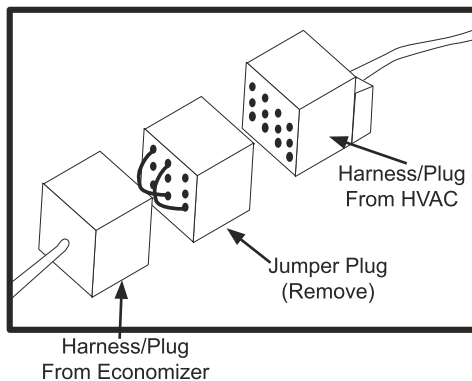

Fig. 3 — Unit Wiring Harness Plug
4. Remove and save the 12-pin jumper plug from the unit wiring harness. Insert the harness from the 2-position damper plug into the unit wiring harness plug. (See Fig. 3.)